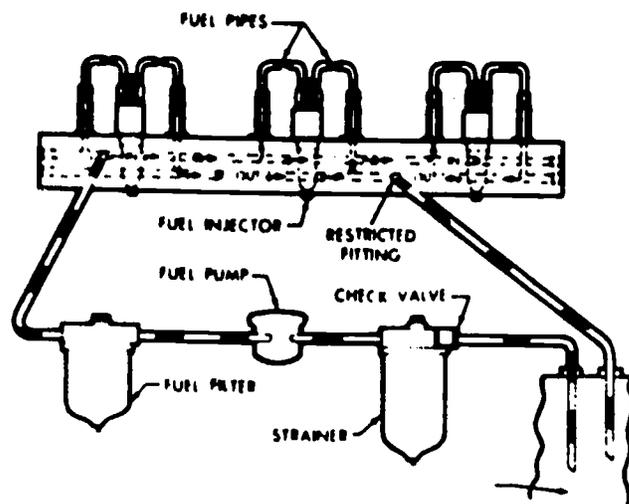

Fig 3-2. Typical unit injector system.
- The Detroit Diesel unit injector (fig 3-2) uses a low pressure gear pump which brings fuel from the tank through the fuel filter to the cam operated injector. The injector meters, times, pressurizes and atomizes fuel into the combustion chamber. A separate governor is connected to the control rack which varies the amount of fuel according to load and speed of the engine. The control rack turns the injector plunger, placing the helix in a position to control the closing of the inlet and exit ports. The position of the helix controls pressurization, metering, and injection of fuel.